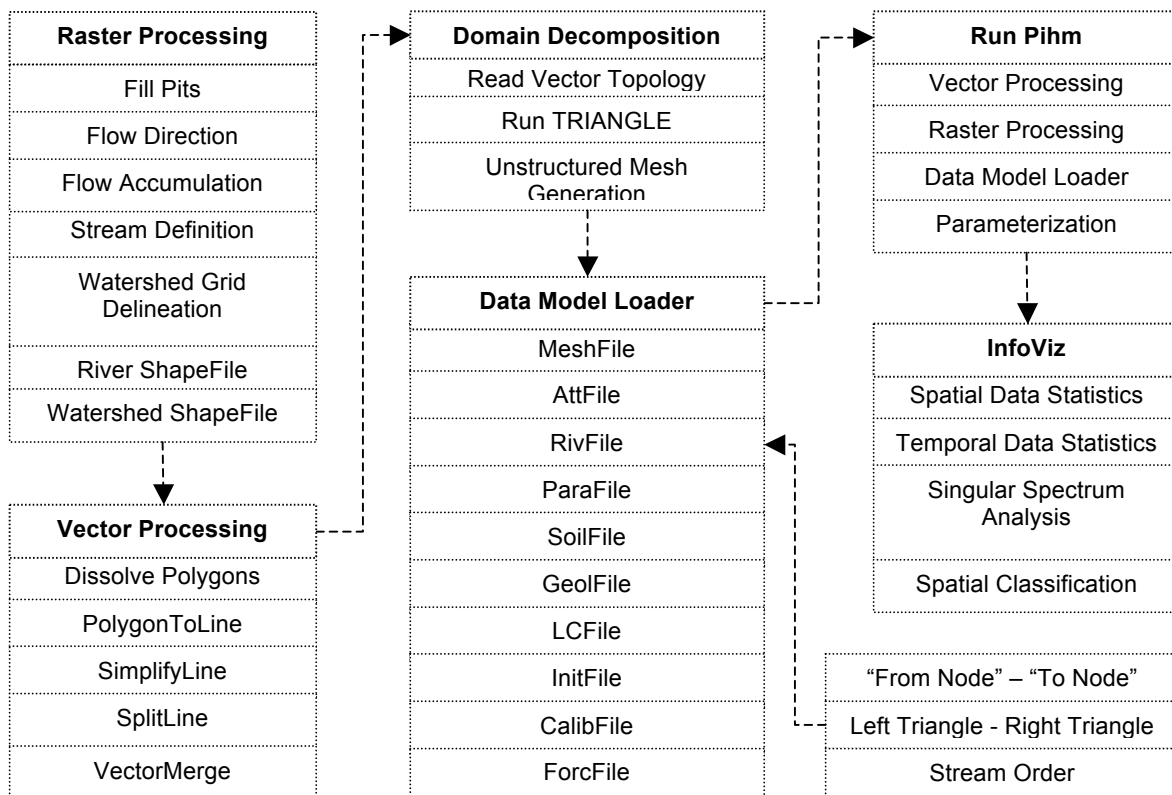

Figure 2.1: PIHMgis Procedural Framework
PIHMgis interface is procedural and interactive in nature. Figure 2.1 shows the procedural framework of the interface. PennState Integrated Hydrologic Model (PIHM) is the core hydrologic model. PIHM uses projection of triangular mesh (also called triangular irregular network, TIN) as model kernel (prismatic cells) on which system of ordinary differential equation representing hydrologic processes are coupled. For a simple application (1) watershed boundary and (2) stream networks are used as constraining layer for discretization of the modeling domain into TINs. Geo-